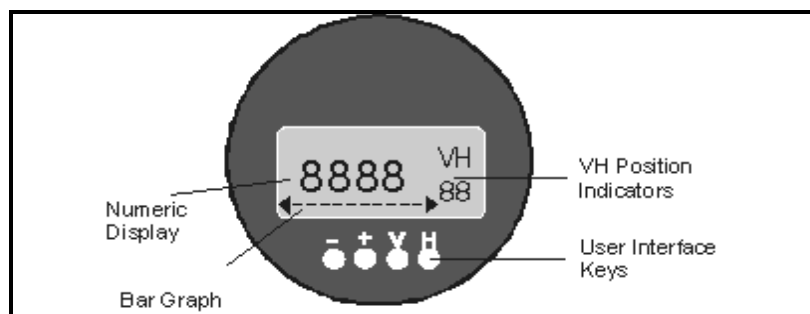

Figure 4-2: The MMR30 Optional Display
The display of the DewPro MMR30 continuously shows the current matrix location using the vertical (V) and horizontal (H) coordinates to designate the row and column, respectively. The bar graph represents the output current in an analog fashion (refer to Figure 4-2 above). See Appendix A for an enlarged overview of the matrix.